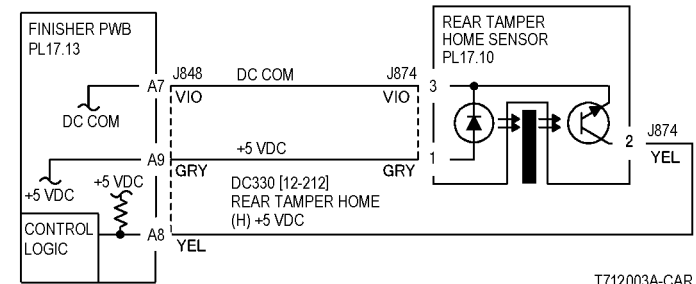

Figure 2 Rear Tamper Home Sensor CD
- Ensure that the connectors shown in the circuit diagrams (Figure 2, Figure 3) are securely connected and that the wires are not damaged.